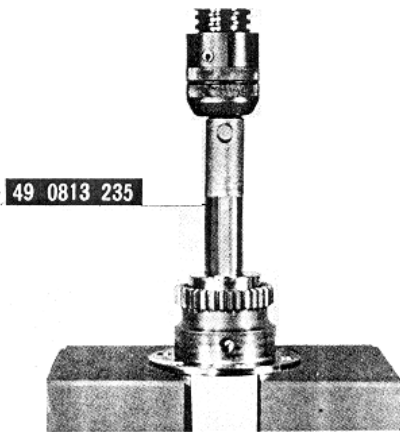

Fig. 1-32 Removing main bearing
- 2) Remove the adaptor on the main bearing replacer and press the main bearing out of the stationary gear by using the main bearing replacer (49 0813 235), as shown in Fig. 1-32.